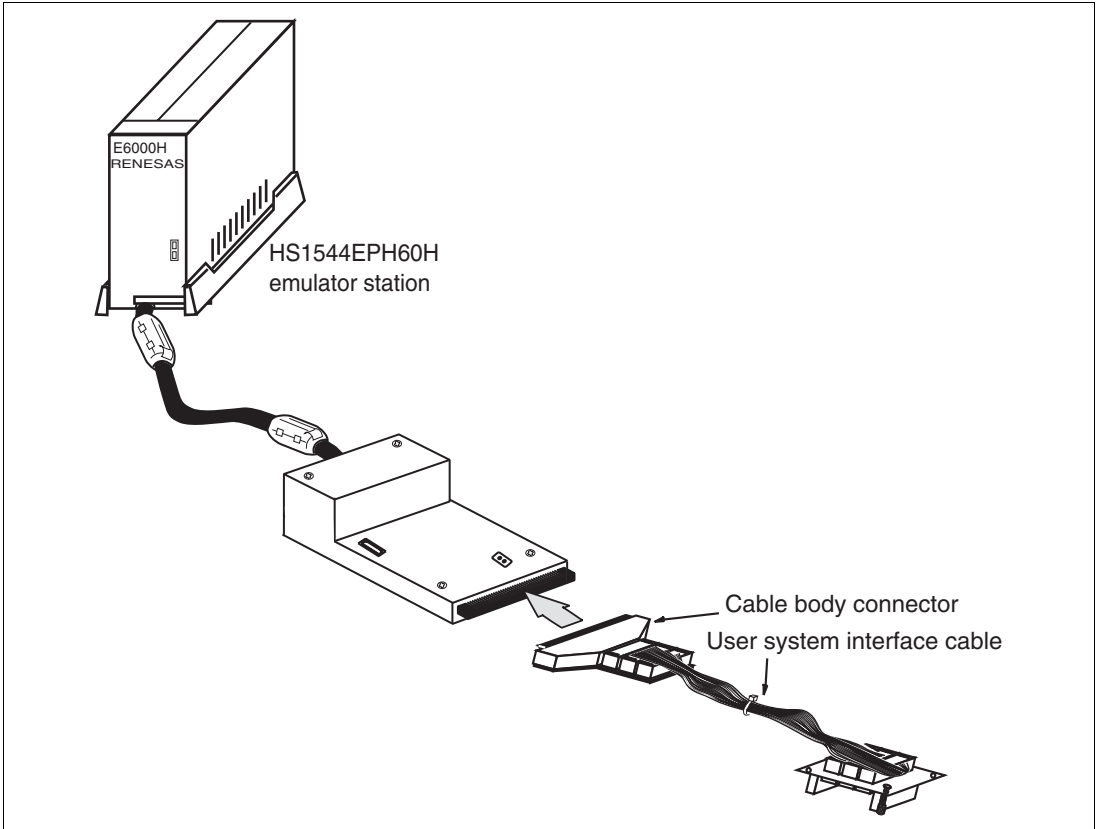

Figure 2 Example of the HS1544EPH60H Emulator Station
2. After making sure the direction of the cable body connector is correct, firmly insert the cable body connector into the emulator station socket (figure 2).